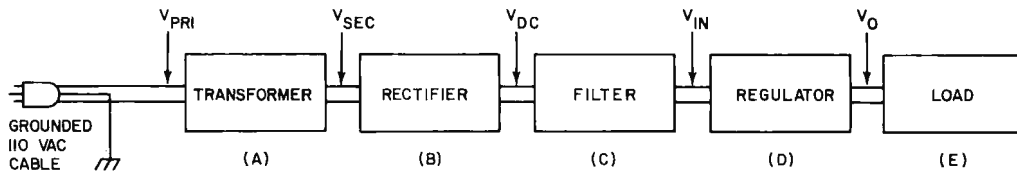

Figure 1: The Power Supply as a System. This is a block diagram identifying the conceptual divisions of a typical power supply system.
be reconstructed if it is to resemble the original data (see figure 1).
*Figure 1: Timing of a Direct Digital Read Operation. The flux on the tape is shown at the top as an idealized square wave. The playback voltage is second from top, an analog function which reflects the actual tape flux zones and the sensing of these zones through the tape head. Referring to the schematic of figure 3, the positive going and negative going transition edges are detected and used to produce pulses which drive the 7474 flip flop used to reconstruct data as received. This data out of the 7474 is read and decoded by the adaptive software running in the processor.*
The basic function of a power supply can be segregated into five components as shown in figure 1. These are stepping the line voltage to a lower more desirable value (A), changing the alternating current to a direct current (B), filtering the DC (C), making sure the voltage is held constant under adverse conditions (D), and distributing the current to the device to be driven, called the load (E). The symbols given to the voltages at each point are listed in table 1 to avoid confusion.